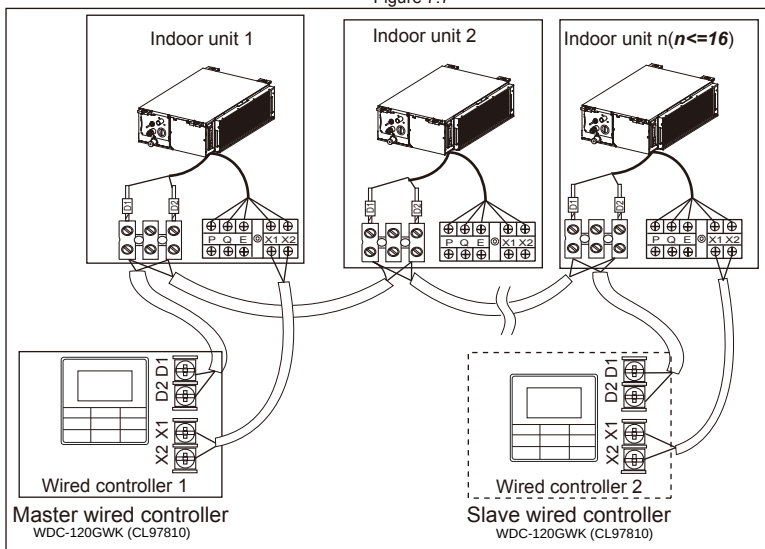

Figure 7.8
- ◆ Use 1 wired controller to control multiple indoor units or 2 wired controllers (one master and one slave controller) to control multiple indoor units (see Figure 7.8);